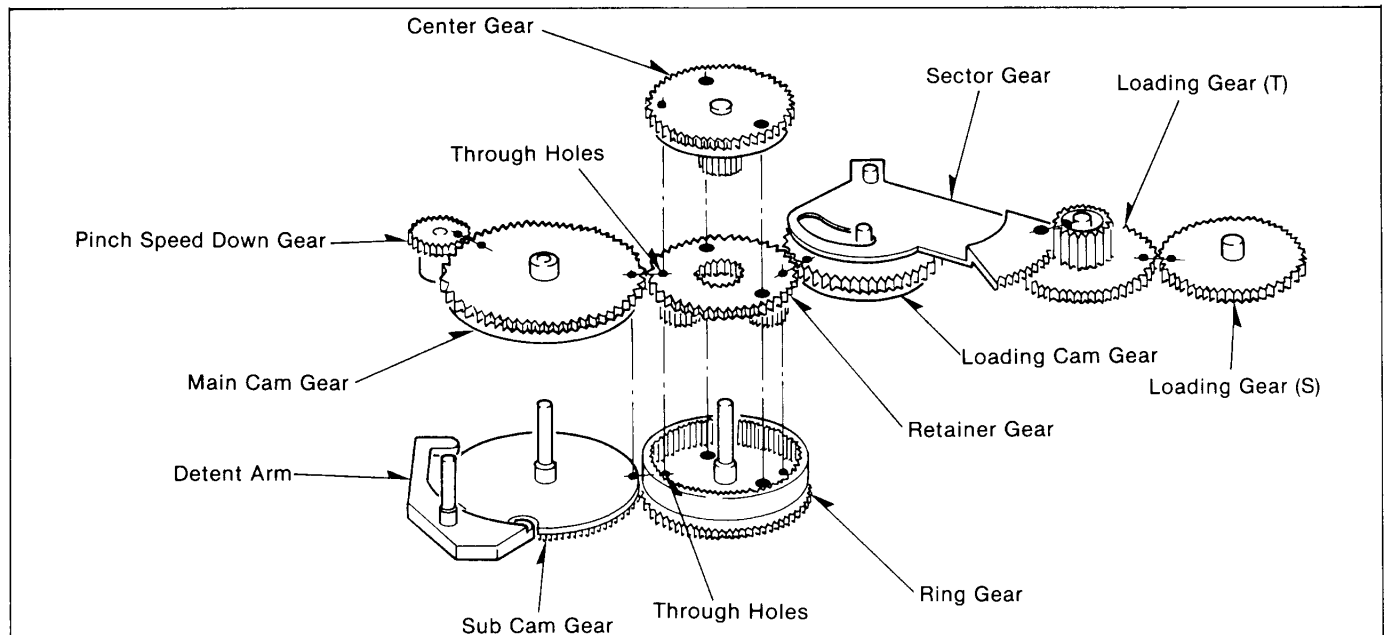

Figure M47 Bottom View of Overall Mechanical Condition
3. Turn the Center Gear to counter-clockwise until 2 big holes of Center Gear align with 2 big holes of Retainer Gear and Ring Gear and Chassis as shown in Figure M47.